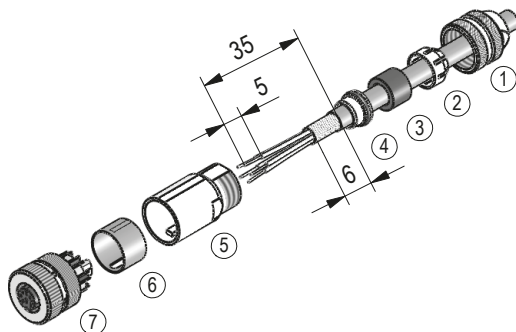

Fig. 12: Straight matting connector M12 A+D coded
- ▶ Strand cross sections of lines  $\leq 0.75 \text{ mm}^2$  / cable feed-through:  $\varnothing 6 \dots \varnothing 8 \text{ mm}$  (Ethernet port 1 (IN) + port 2 (OUT)).
- Accessory SIKO art. no. "87601" M12 D coded (plug pin 4 pole Ethernet port 1 (IN) + port 2 (OUT)) (Fig. 12).
- Accessory SIKO art. no. "83525" M12 A coded (socket 8 pole interface digital inputs and outputs) (Fig. 12).
#### Mounting (Fig. 12)